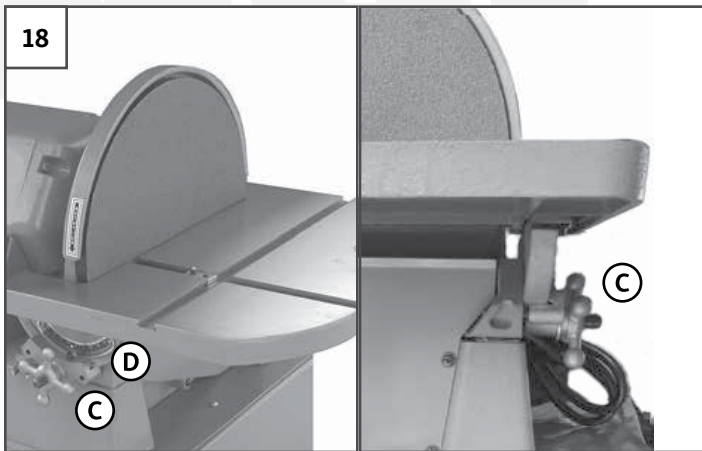

FIGURE 18: ADJUSTING DISC TABLE TILT
1. Loosen **TABLE LOCK KNOBS (C)**. See Figure 18.
2. Tilt the table to the desired angle, as indicated on the **BEVEL SCALE (D)**.
3. Turn the **LOCK KNOBS (C)** clockwise to secure the table in position.